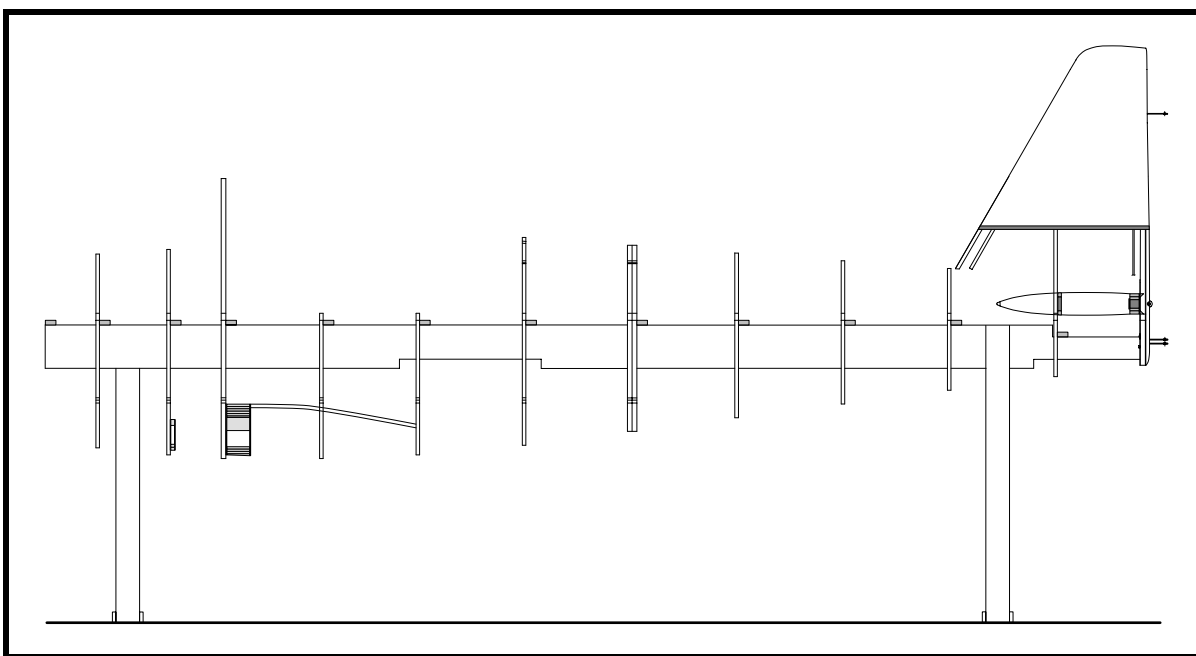

Figure 13
- ❑ Install fuselage frame No. 2 on the jig with its “one by two” brace. See Figure 13.